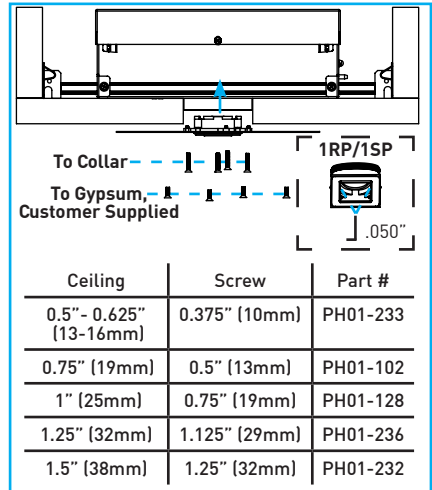

Fig. 15
Once housing has been installed with initial alignment completed and proper ceiling cut-out has been made (Fig. 14), carefully raise appliqué assembly into ceiling and attach using collar and gypsum screws, referencing "Fig. 15" for correct collar screw length. Ensure all mounting screws are securely tightened, alternating tightening order to ensure flush installation. **DO NOT OVERTIGHTEN.**
**Important:** 1" Round and Square pinhole trimless baffles (1RP/1SP) feature additional locking screws. Tighten using 0.050" allen key prior to plug installation (Fig. 15).